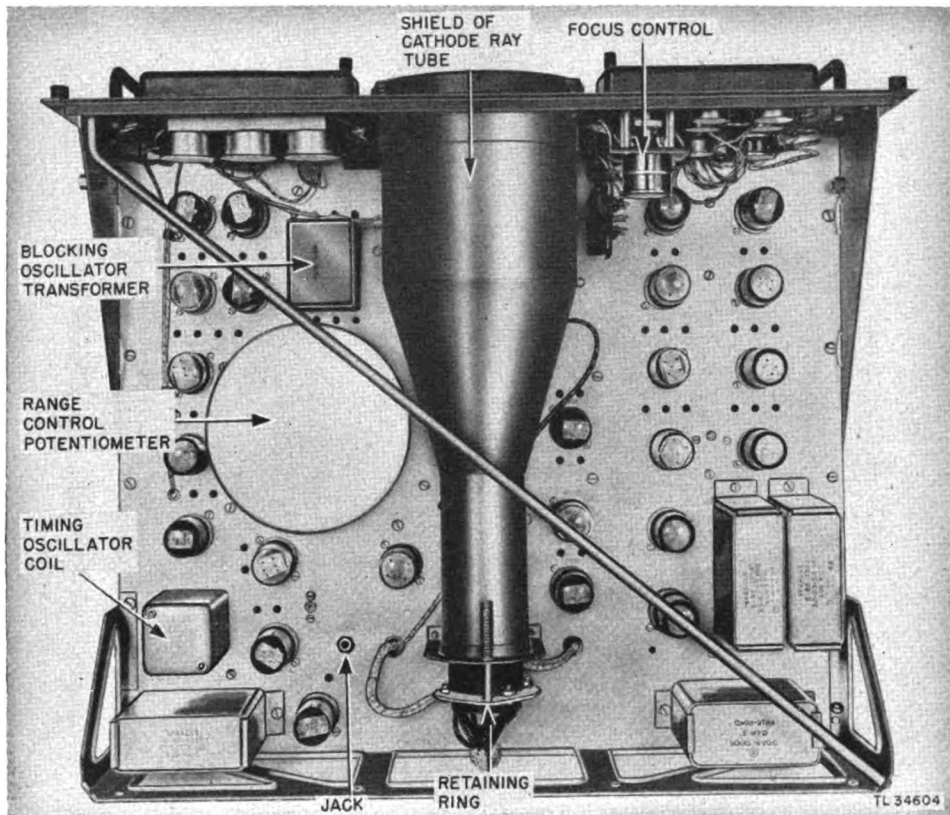

Figure 9. Control unit—top view.
(1) Remove all plugs from the jacket on the front panel. Close the doors and tighten the captive screws to keep the doors from swinging as the position of the control unit is changed.
(2) Loosen the four captive screws which hold the unit in place, making sure they are free of the rack bushings, but do not remove them from the panel.
(3) Firmly grasp the two handles and pull sharply straight forward to disengage the plug contacts at the rear of the chassis. After a motion of about 1 inch, the contacts are completely disengaged and the unit slides easily from the rack.
(4) Set the control unit on its side. Do not set the unit on its back or the acetate schematic and legend may be damaged.
(5) The various parts within the chassis of the control unit are now accessible for maintenance.
a. LOCATION (fig. 9).
(1) The tube envelopes for cleanliness.
(2) The socket-mounting screws for tightness.
(3) The cathode-ray tube for—